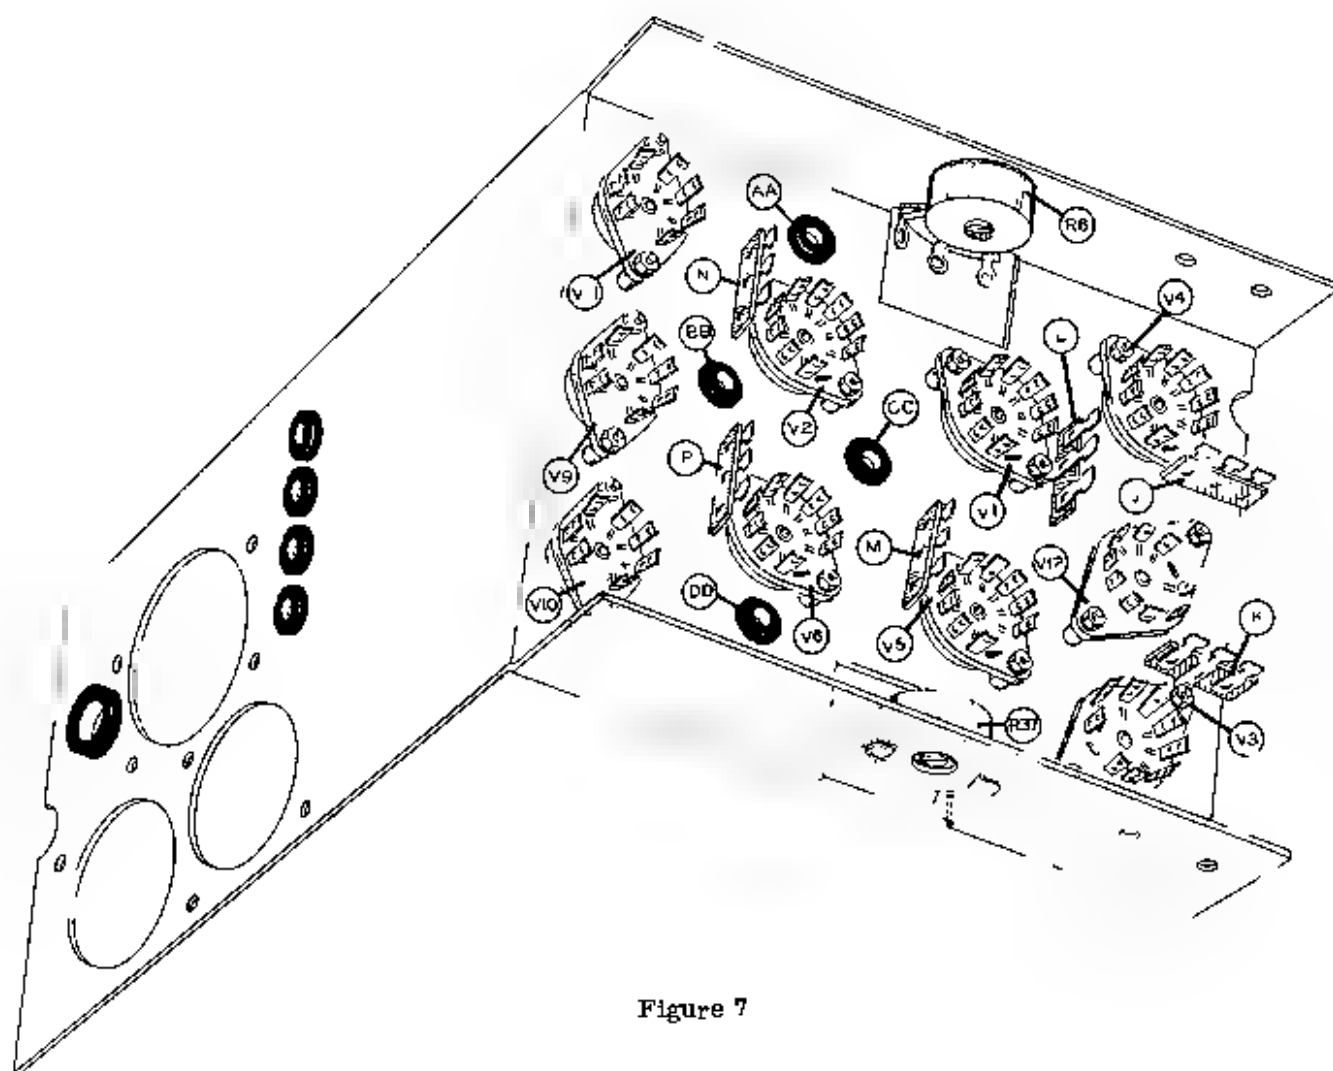

Figure 7
Refer to Figure 7 for the following steps.
- (1) Locate the chassis, orient as shown, and install the four 5/16" rubber grommets AA, BB, CC and DD. See Figure 7.
- (2) Install the remaining four 5/16 rubber grommets in the four holes in the upper chassis apron.
NOTE Be sure that the blank spaces in all tube sockets face in the directions shown in Figure 7.
- (3) Mount 7-pin tube sockets V9, V10, and V11. Use 3-48 x 1/2" screws, #3 x 7/32" spacers, #3 lockwashers and 3-48 nuts as shown in Detail 7A. Terminal strips are not used on these sockets. (This same hardware line-up will be used to mount all ten of the chassis tube sockets.)
- (4) Mount 9-pin tube sockets V2 and V6 and the small 3-lug terminal strips N and P. Use two #3 lockwashers with each terminal strip as shown in Detail 7A.
- (5) Mount 9-pin tube sockets V1 and V5, along with the small 3-lug terminal strips L and M.
- (6) Mount 9-pin tube sockets V3 and V4, along with small terminal strips J and K.
- (7) Cut off the end of each lug of a 9-pin tube socket as shown in Detail 7B. Now mount this socket, V12, as shown in Figure 7.
- (8) RS. Mount a 10 K Ω linear tab mounting control (#10-57) at R6 with the lugs facing through the top of the chassis. See Detail 7C.
- (9) R37. Mount the other 10 K Ω linear tab mounting control (#10-57) at R37 in the same manner.